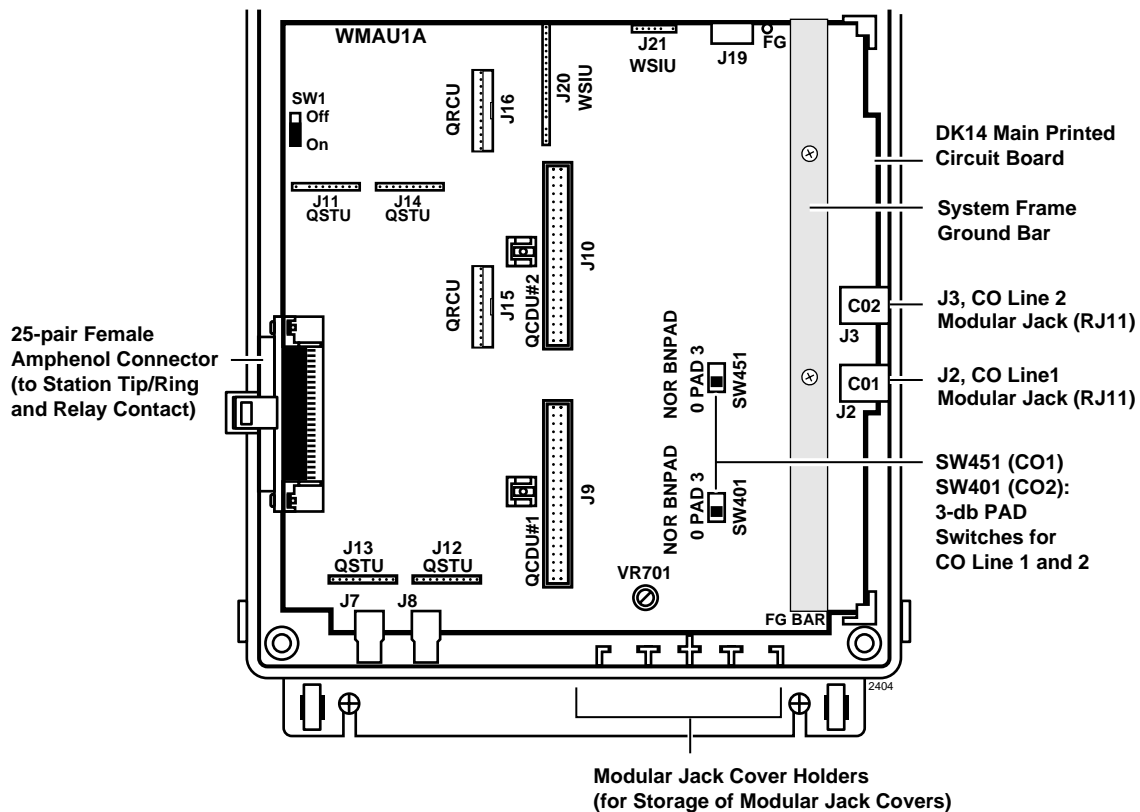

Figure 1-4 DK14 Interior View
2. Move the SW1 RAM Storage Battery jumper plug strap on the motherboard to the ON position (Figure 1-4).
The KSU comes standard with two CO lines and four digital telephone circuits already installed on the motherboard (WMAU). See Figure 1-4 for an illustration of the WMAU.